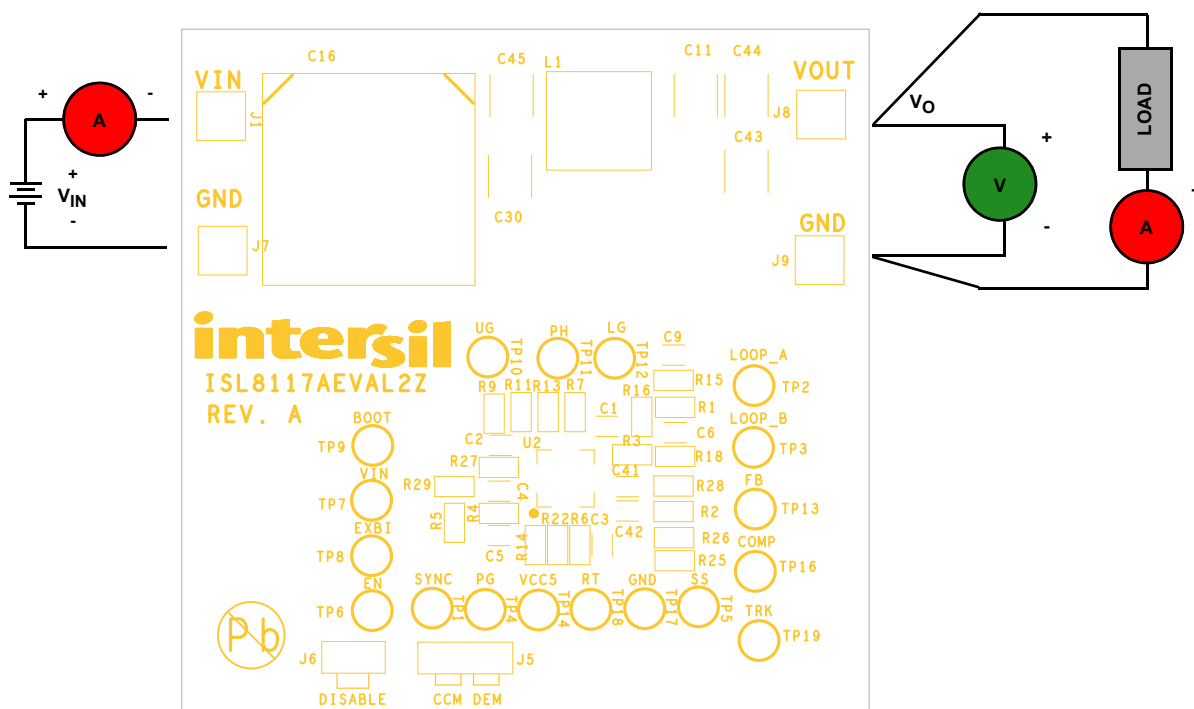

FIGURE 3. PROPER TEST SETUP
1. Jumper J5 provides the option to select CCM or DEM. Please refer to Table 2 for the desired operating option. Ensure that the circuit is correctly connected to the supply and electronic loads prior to applying any power. Please refer to Figure 3 for proper setup.
As shown in Figure 3 on page 3, 4.5V to 60V V_{IN} is supplied to J1 (+) and J7 (-). The regulated 3.3V output on J8 (+) and J9 (-) can supply up to 6A to the load.